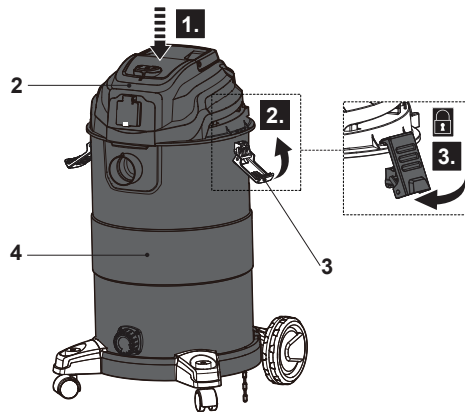

Fig. 13
- > Place the motor unit (2) with foam sleeve (24) onto the tank (4) and secure it with the clasps (3) (Fig. 13). Ensure the motor unit sits properly on the tank and the connection is properly sealed.